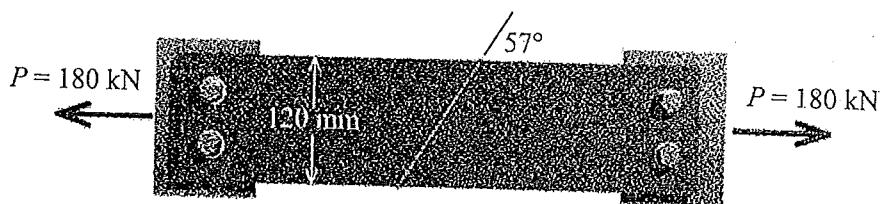

Figure 3
- [b] A 120-mm-wide steel bar with a butt-welded joint, as shown in Figure 3, will be used to carry an axial tension load of $P = 180 \text{ kN}$. If the normal and shear stress on the plane of the butt weld must be limited to 80 MPa and 45 MPa, respectively, calculate the minimum thickness required for the bar.